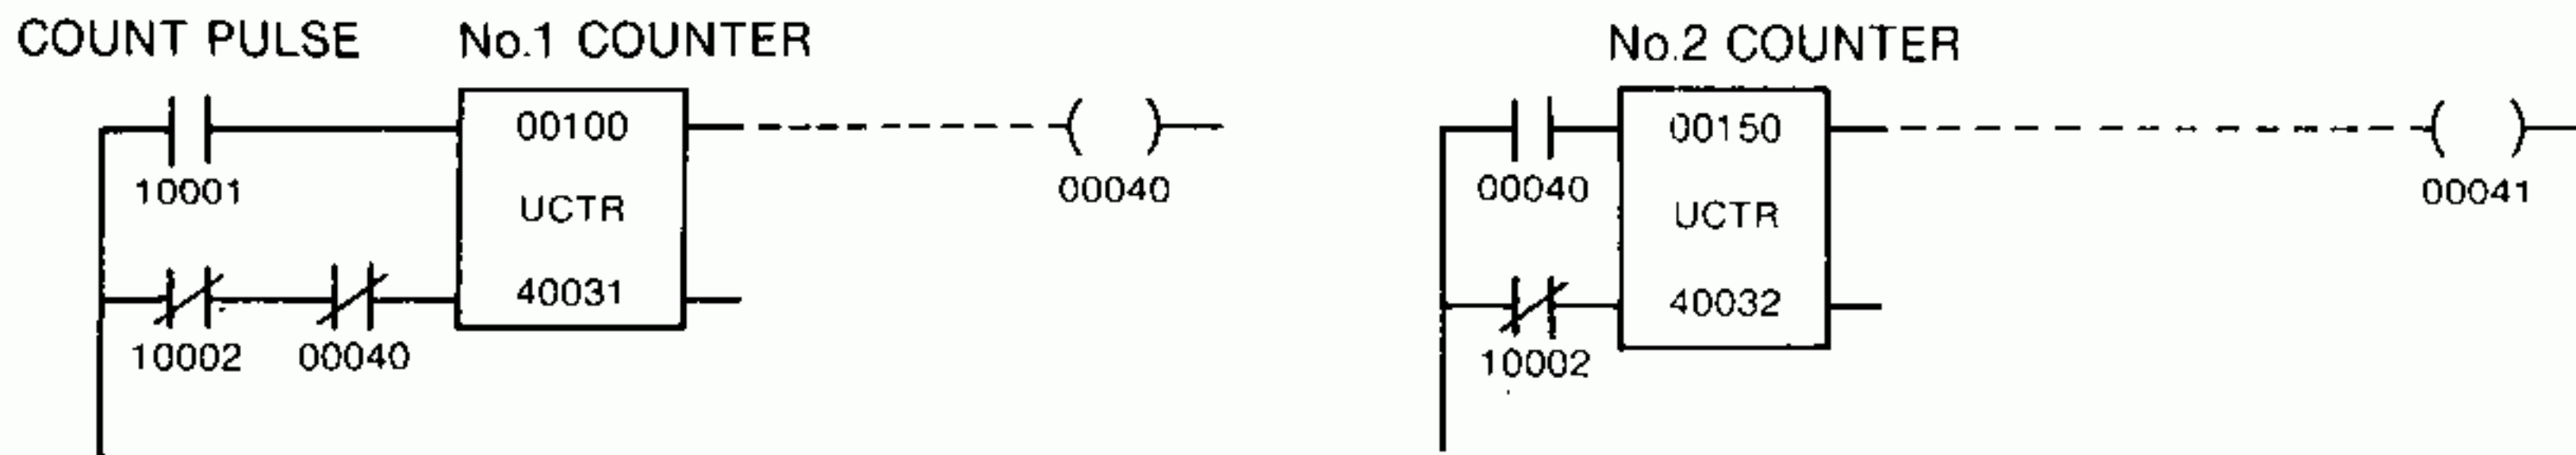

Fig. 5.24 Large-capacity Counter
(1) Large-capacity Counter
- Fig. 5.24 shows a large-capacity counter (preset value = $100 \times 150 = 15000$) using two up counters.